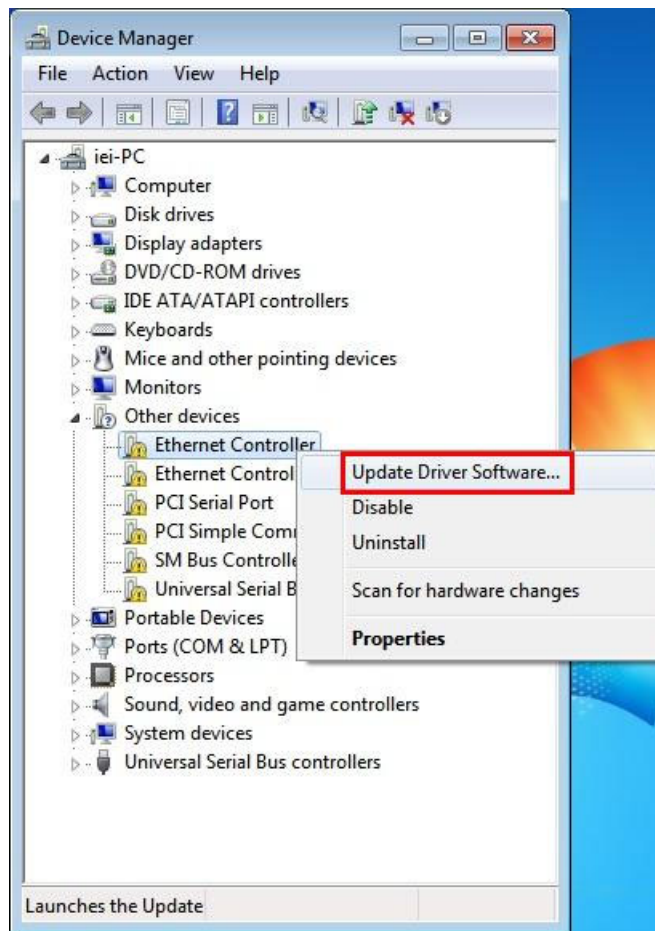

Figure 6-15: Device Manager List
- Step 4:** A list of system hardware devices appears (Figure 6-15).
- Step 6:** Select **Update Driver Software**. See Figure 6-15.
Step 13: Right-click the other Ethernet controller that has question marks next to it as shown in **Figure 6-15**. Repeat **Step 6 ~ Step 12** to install the second Ethernet controller driver.